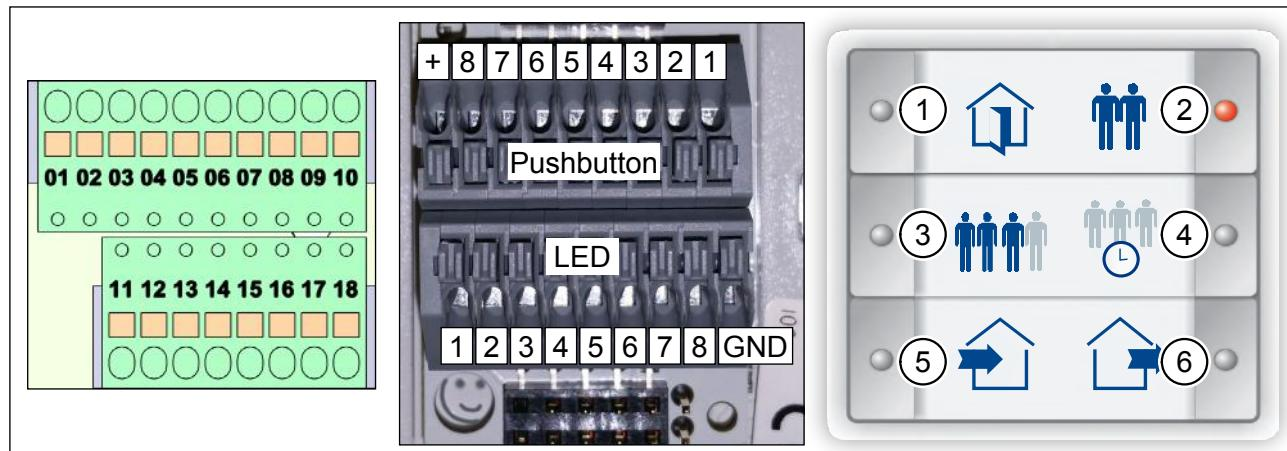

Fig. 5: Terminal blocks on M-WRG-S/Z-T, terminal blocks on InControl pushbutton sensor, M-WRG-S/Z-T insert sheet
- After wiring, place the insert sheet (Fig. 5) in the InControl pushbutton sensor.